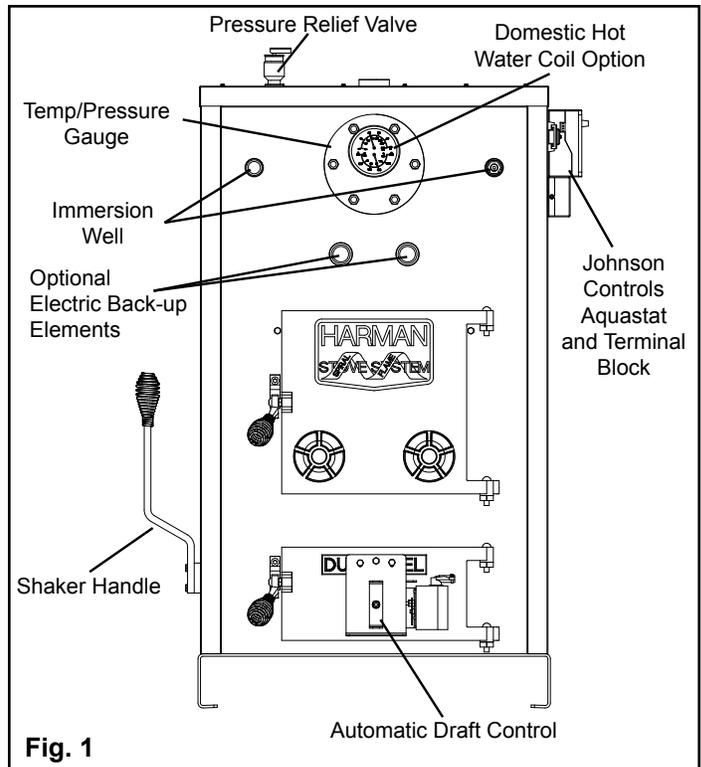

Fig. 1
Install the Temperature/Pressure Gauge into the pipe stub in the center of the round plate on the front of the boiler (Fig. 1)
(See optional items, page 7) Lay the din rail on a flat surface, with the flat side down. Secure one end clamp, on the left side. Slide the A350 controller onto the rail from right to left until it is against the end clamp. Slide the Y350 onto the rail and guide the plug-in connector, joining it to the A350. Next, install the S350, again, guiding the plug-in connector carefully. Install the other end clamp to the right side of the din rail. Remove the covers from all three controls by loosening four screws each. Install the terminal box to the controls using (3) chase nipples and locknuts, supplied with the kit. Using the four holes in the terminal box, mount the terminal box and controls to the boiler sheet metal side as shown in Fig. 1. Using (2) #8-32 nuts, install the terminal block onto the studs located inside the terminal box.
If electric back-up is desired, install now. There will be two additional control boxes to add to your Aquastat, which will require the use of a longer din rail. The two heating elements will install into the front of the boiler as shown in Fig. 1